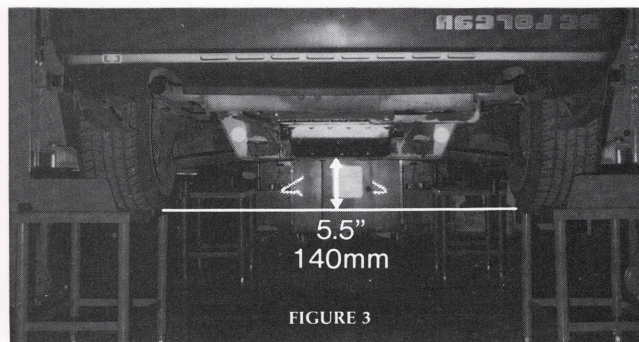

FIGURE 3
5) Check and, if necessary, adjust setting height 140 mm (5.5 inches) at the center of the engine support cross member (See Fig. 3).